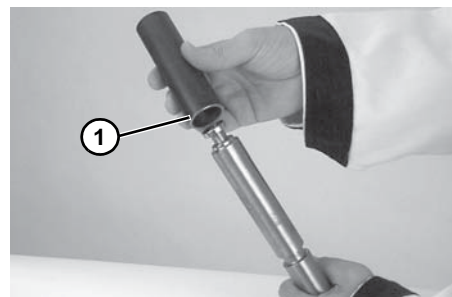

Figure 16
- Slide sleeve (**Figure 16, item 1**) of tool (part #456085) over bearing.